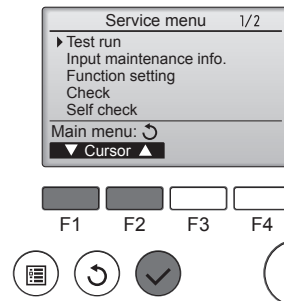

Fig. 8-1
- ① Select "Test run" from the Service menu, and press the [SELECT] button. (Fig. 8-1)